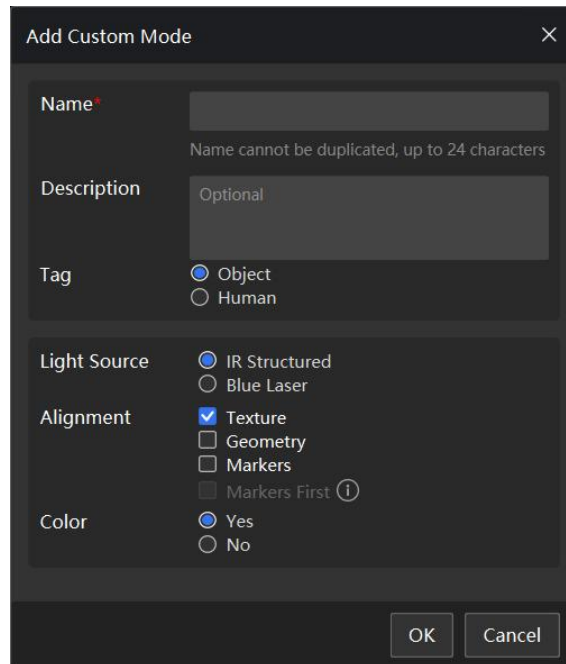

Figure 7-6 Add Custom Mode Interface
- **Alignment:** The first three options (Texture, Geometry, Markers) can be freely combined, while the fourth, **Marker First**, requires separate selection, which is shown in Figure 7-6.